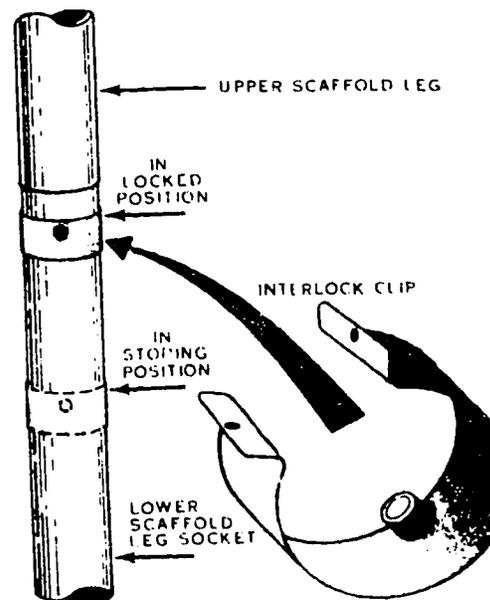

FIGURE 25. Move the interlock clip : locking position
i. As each section is installed, move the interlock clips up to the locking holes. Figure 25 shows the interlock clip. It also shows the clip in the locked position and the stored position.